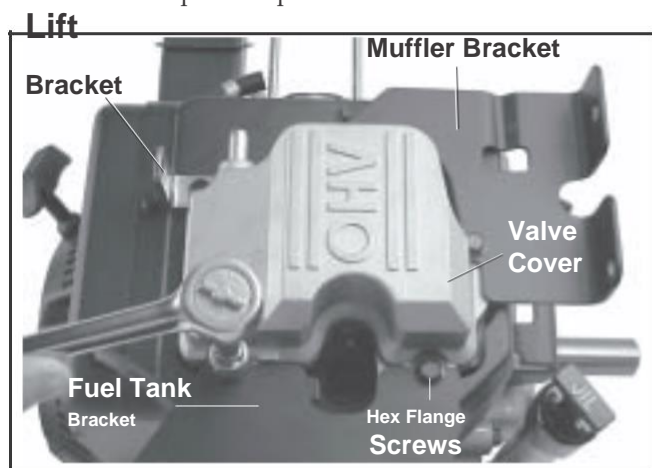

Figure 9-22. Removing Valve Cover.
1. Remove the five hex flange valve cover screws. Note the assembly orientation of any attached brackets (lift, fuel tank, muffler) and loose spacers if used. See Figure 9-22.